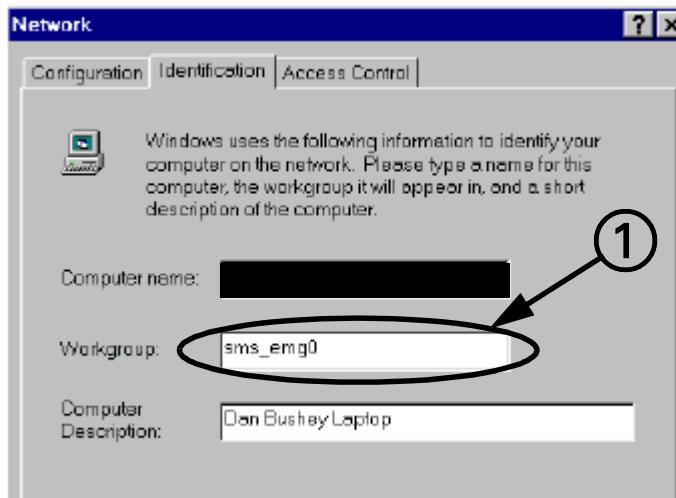

Figure 14-6 Network Window
11. At "Network" window (see Figure 14-6) click on *Identification Tab*.
13. Type Domain Name (See Domain Name box in Table 6-4.) into Workgroup box (① in Figure 14-6), and click on *OK*,